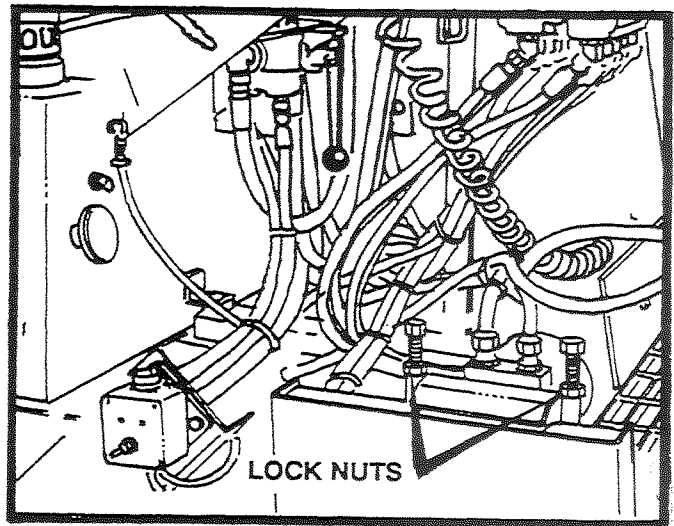

FIGURE 35
3. Look at drive chain through the top of the frame. If drive chain has a whip in it, adjustment is necessary. See figure 35.